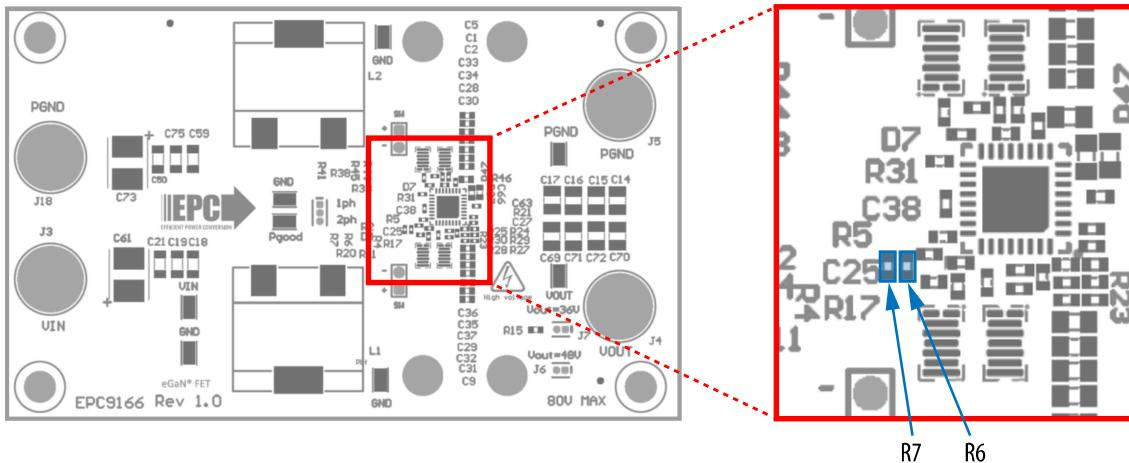

Figure 9: EPC9166 ULVO settings: location of R6 & R7
The input UVLO threshold voltage can be set by R6 and R7 as shown in Figure 9. The default values of V_{UV} are listed in table 1. If needed, a new UVLO voltage and hysteresis can be set by changing R6 and R7 using equation (1) and (2). Please refer to ISL81807 datasheet for more information.